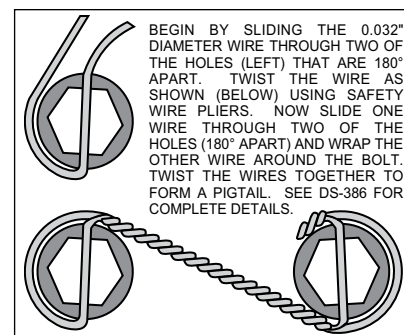

Figure 3. Safety Wire Diagram
- The flat caliper mounting bracket (1) should be installed first with clean, dry threads on the mounting bolts. Install the bracket by sliding bolt (2) through washer (3) through the top hole of the mounting bracket (1) and into the upper hole on the spindle. Slide bolt (4) through the small hole on the spindle from the backside and through the corresponding hole on the bracket (1). Slip flat washer (5) onto the bolt and secure with lock nut (7). Finger tighten only at this time. The bracket must tighten squarely against the outboard side of the spindle body. Inspect for interference from casting irregularities, machining ridges, burrs, etc. Later, after the caliper, pad, and rotor alignment has been checked, and any necessary shims have been put in place, the threads of mounting bolt (2) should be coated with red *Loctite*® 271 and torqued to 120 ft-lbs. Lock nut (7) will be torqued to 65 ft-lbs.
- Install wheel studs (8) into the hub (9). Torque to 77 ft-lb. **NOTE:** There are two five lug patterns in the hub (5 x 4.50 and 5 x 4.75). Make sure of the correct hole pattern for the correct wheel application before installing studs into hub.
- Pack the large inner bearing cone (10) with high temperature disc brake bearing grease (available from your local auto parts store) and install into the backside of the hub (9).
- Install the grease seal (11) by pressing into the backside of the hub (9).
- Pack the small outer bearing cone (17) with high temperature disc brake bearing grease and install into front of hub (9). Slide the hub assembly (8, 9, 10, 11 and 17) onto the spindle. Secure using spindle washer (18), stock adjusting nut and nut locking device. Bearing adjustment: Tighten the nut while turning the hub. When there is a slight bind on the bearings, they are seated correctly. Back the nut off about 1/6 to 1/4 of a turn, or sufficiently to allow .001" to .007" end play. **WARNING:** Failure to back off adjusting nut could cause bearing to run hot and be damaged, which could cause the wheel to lock or come off.
- Install the o-ring (19) on the dust cap (20), and screw dust cap assembly onto the hub (9). Friction created by the o-ring (19) on the dust cap (20) keeps it from unscrewing.
- With the larger I.D. side of the rotor (12) facing away from the hat (13), bolt rotor (12) to hat (13) through the backside of the rotor using washers (14) and bolts (15). Apply red *Loctite*® 271 to the bolt threads and torque to 155 in-lb using a criss-cross pattern. For an added measure of security, the bolts may be safety wired using standard 0.032 inch diameter stainless steel safety wire as shown in Figure 3. Please refer to Wilwood's data sheet DS-386 (available at www.wilwood.com/Pdf/DataSheets/ds386.pdf) for complete safety wire installation instructions.
- Slide the rotor/hat assembly over the studs (8) in the hub (9) taking care to align the small countersunk holes in the hat (13) with the small threaded holes in the hub (9). Install three flat head socket head screws (16) through the small holes in the hat (13) and torque to 85 in-lb.